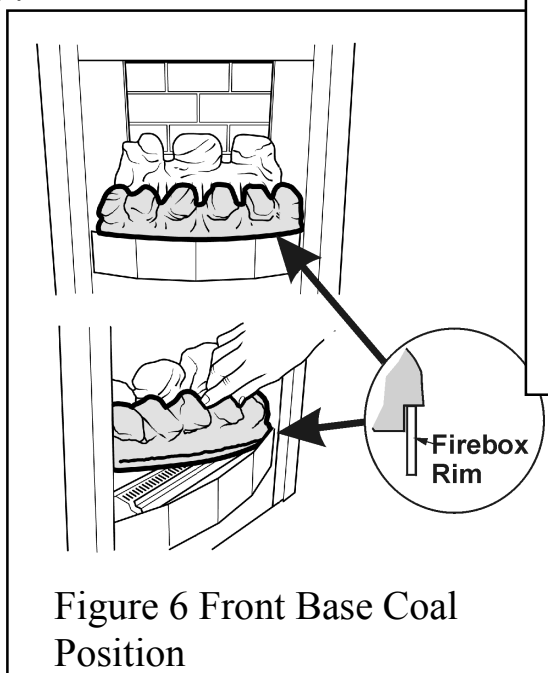

Figure 6 Front Base Coal Position
3. Place the front base coal in the firebox with its bottom front locating over the front rim of the firebox. Pull the coal forward so that it locates immediately behind the front rim of the firebox. See figure 6.